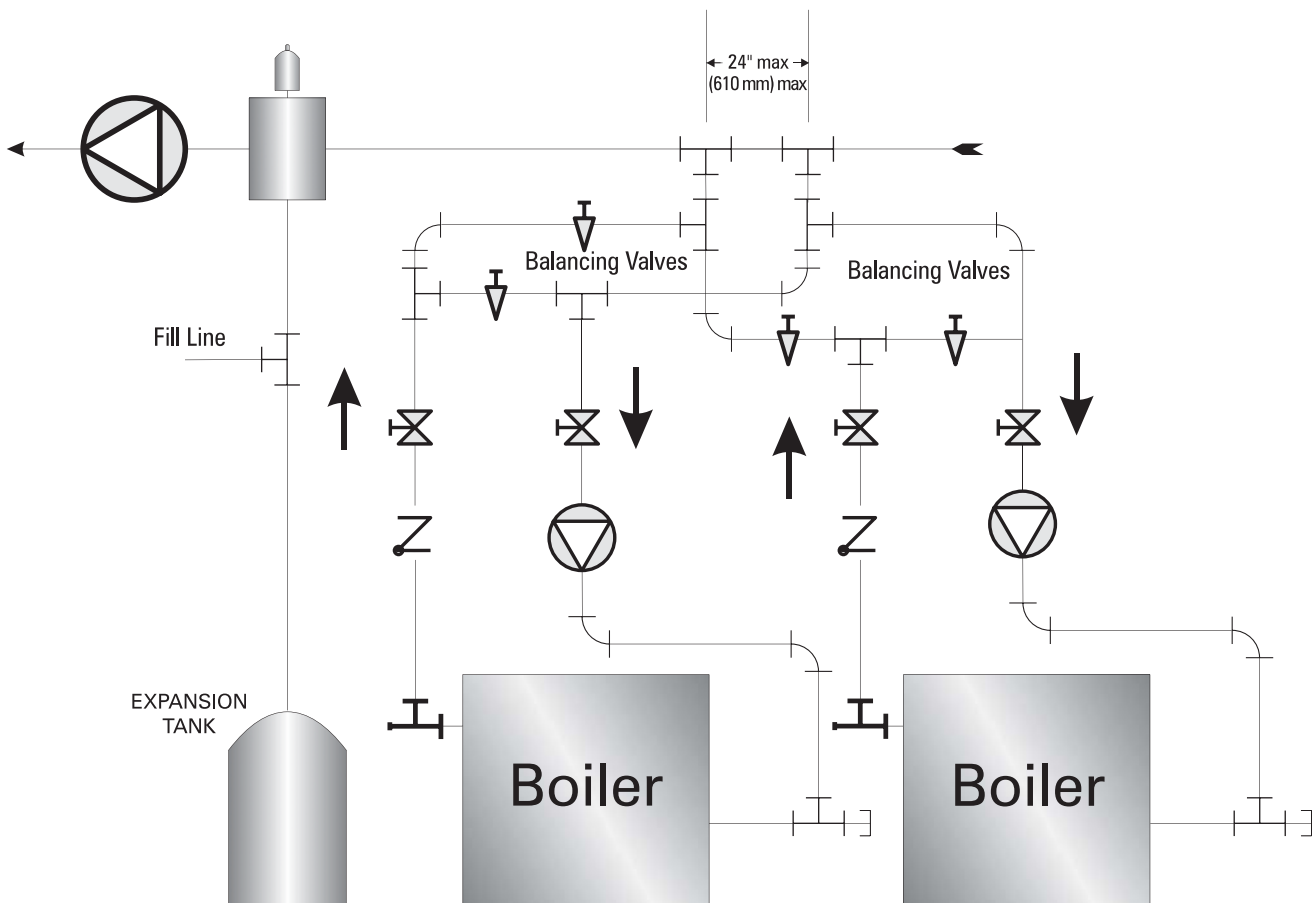

Figure 5.4: Fixed By-Pass Piping, Multiple Boilers
primary/secondary systems with a large primary circuit temperature drop. See Figure 5.4 for multiple boilers.
1. Multiple boilers should be piped in a secondary loop. Each boiler should be provided with its own pump and piped off of the secondary loop header. See Figure 5.7 for systems with return temperature above 130°F (54°C). For low temperature systems, see Figure 5.4 (constant low temperature systems) or Figure 5.8 (variable low temperature systems).